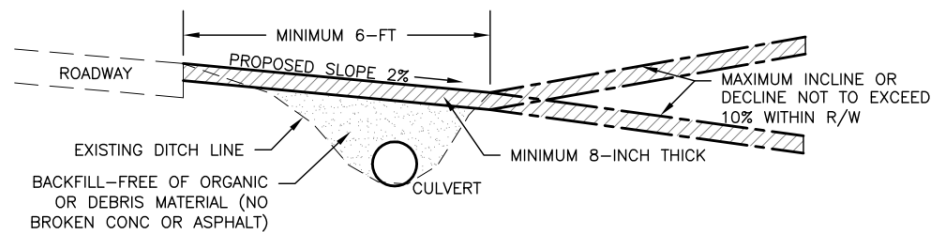

Figure 2
- Driveway Approaches shall be a 2% minimum slope down / away from the road so that water runs away from the road and toward the ditch line, as shown in **Figure 2**.